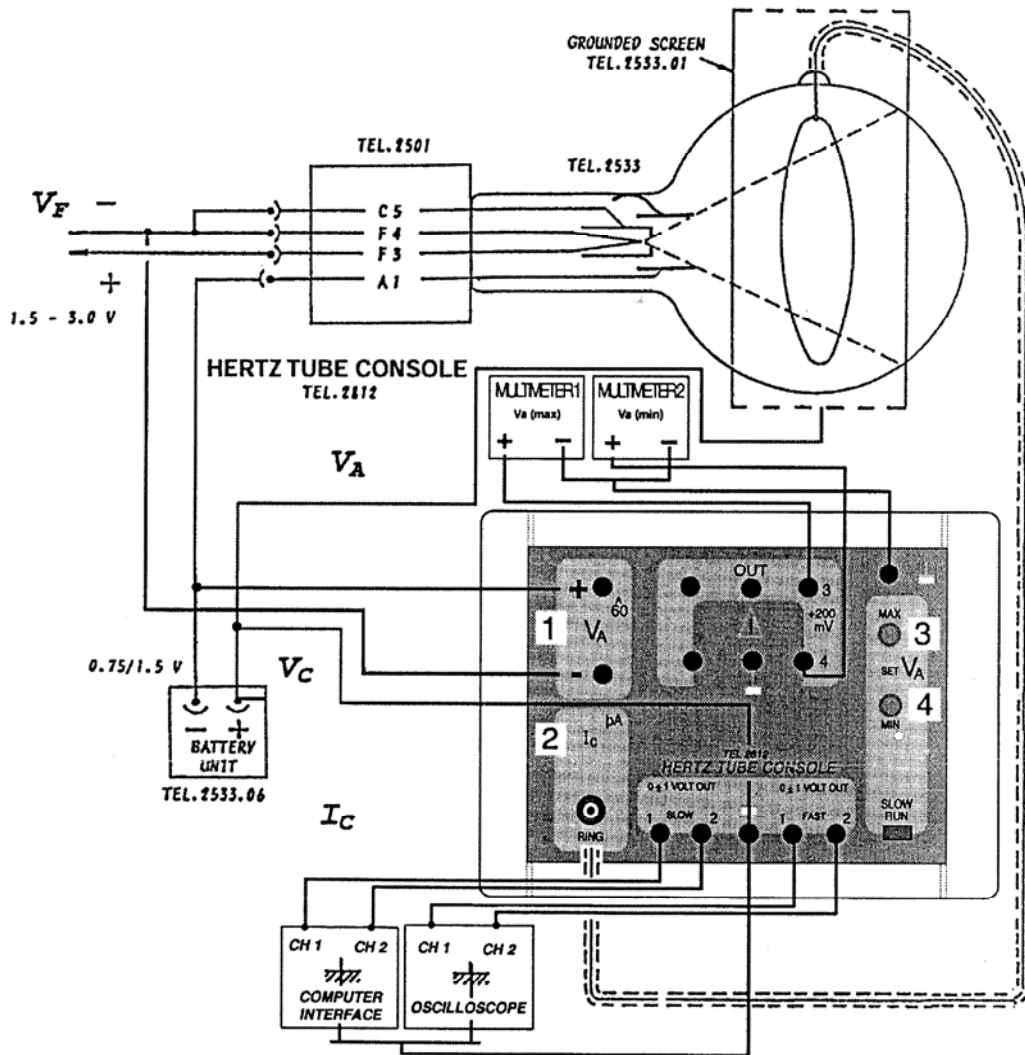

Figure 2: Electronic connections for the Hertz Console unit (if you need to adjust these connections, consult with your TA).
1. The apparatus should already be wired up. A diagram of the wiring is shown in Figure 2, but you only need to go through it in detail if things aren’t working. If you are having problems getting things to work, please consult with your TA.